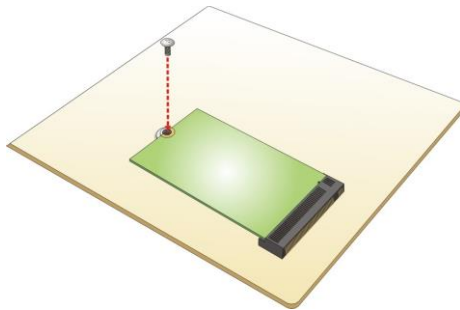

Figure 3-5: Securing the M.2 Module
Step4. Secure the M.2 module with the previously removed retention screw (Figure 3-5).